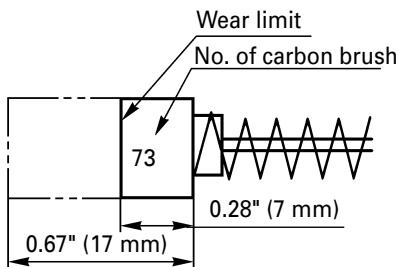

Fig. 20
4. Inspecting the carbon brushes: (Fig. 20)
Use HITACHI carbon brush No.73 indicated in Fig. 20